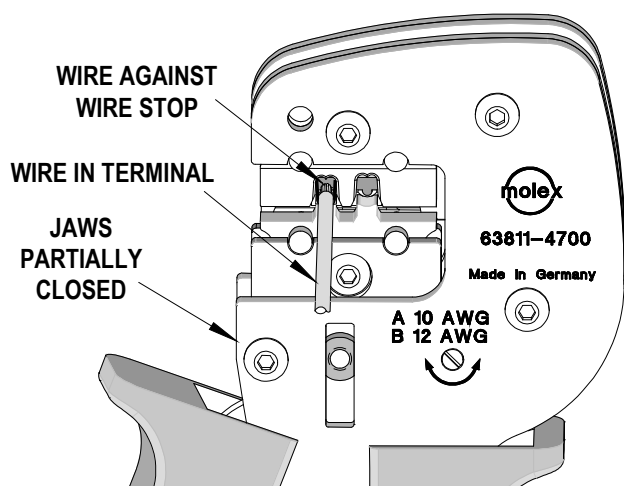

Figure 4
2. Insert the proper pre-stripped wire over the terminal. Gently touch the wire stop with the end of the wire. See Figures 4 and 5.